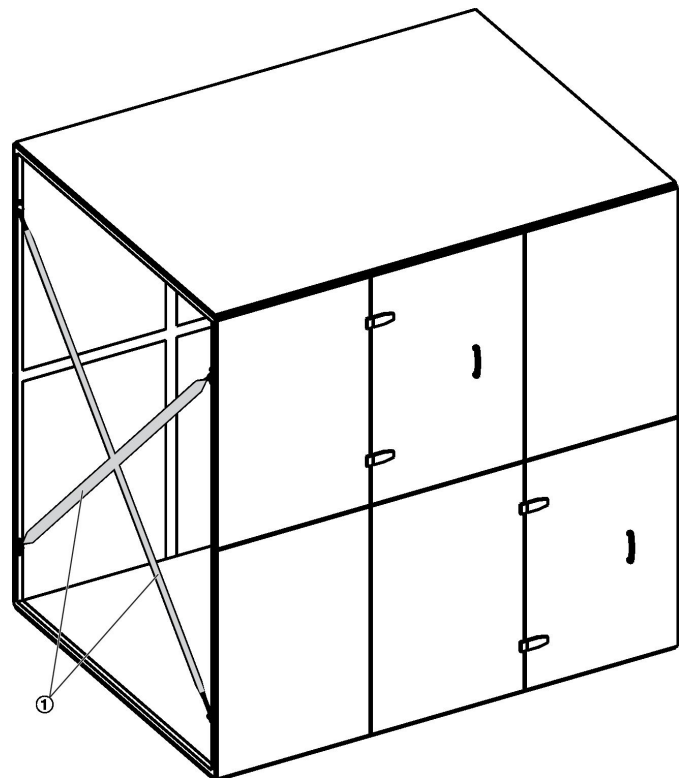

Fig. 7: Transport straps
- 1 ▶ Cut the transport straps (Fig. 7 /1) and remove them completely.